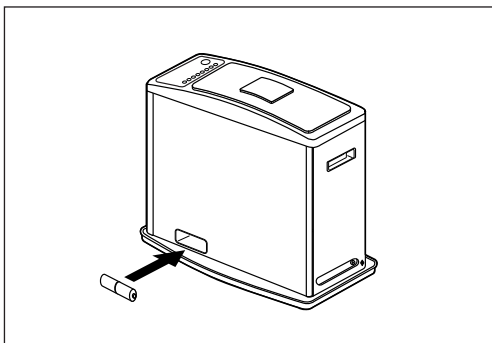
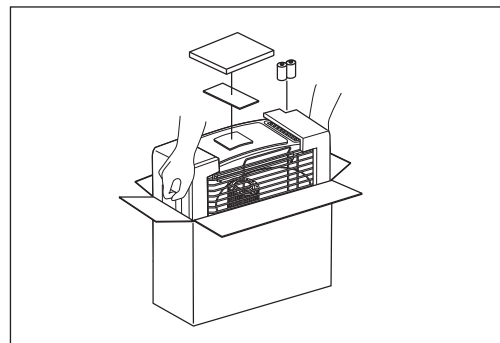

Fig. 12
Fig. 13
Carefully following the instructions for storage given below will insure that your heater will operate efficiently and safely next season (Fig. 12/Fig. 13).
- Remove the batteries (Fig.12) from the battery case before storing the heater to prevent leakage and corrosion. Remove the 5 cabinet screws and lift off they the cabinet and grille assembly. Remove the burner. Remove the wick adjuster from the fuel reservoir. **Thoroughly** dry the Inside of the fuel tank. Using a screwdriver and/or a brush, remove any carbon, tar or soot that might have accumulated on the wick adjuster, wick guide or burner.